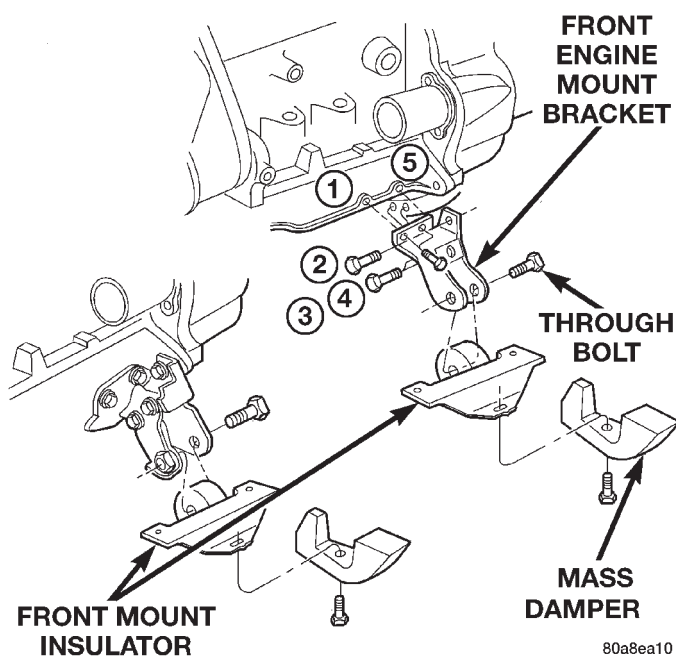

Fig. 10 Engine Mounting—Front
- (1) Raise vehicle on hoist.
- (2) Support the engine and transmission assembly with a floor jack so it will not rotate.
- (3) Remove the front engine mount thru-bolt from the insulator and engine mount bracket (Fig. 10).
- (4) Remove the mass damper. Remove the front mount nuts and remove insulator assembly.
- (5) Remove the engine mount bracket, if necessary.
- (6) Reverse removal procedure for installation and tighten fasteners in this order.
- a. If engine mount bracket was removed, tighten bolt 1 to 3 N·m (20 in. lbs.) and bolts 2, 3 and 4 to 108 N·m (80 ft. lbs.) (Fig. 10).